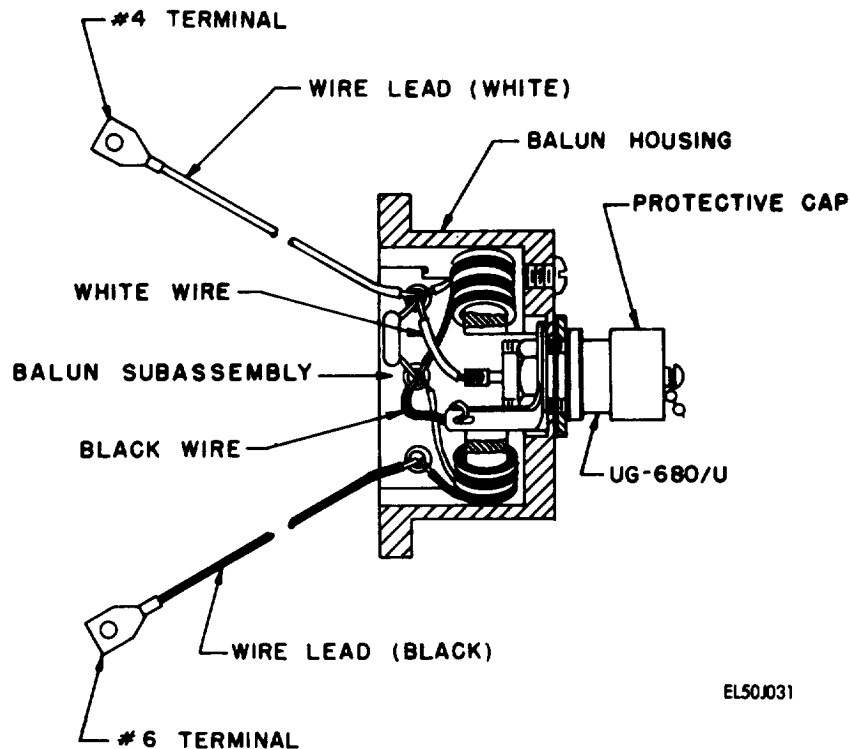

Figure 6-1. Balun assembly, internal view.
(3) *Replacement.* Replace the feedcone subassembly if the unit fails any check made in (1) or (2) above.
b. *Balun Assembly* (fig. 6-1).
(1) Visual inspection.
(2) *Continuity Check.* Disassemble unit if required, using the disassembly procedure of paragraph 6-5 a. Check the continuity between the shell and center conductor of the UG-680/U connector and between the #4 terminal wire lead (white) and #6 terminal wire lead (black) (fig. 6-1) using a low resistance range on the ohmmeter. Resistance readings should be near zero indicating direct con-